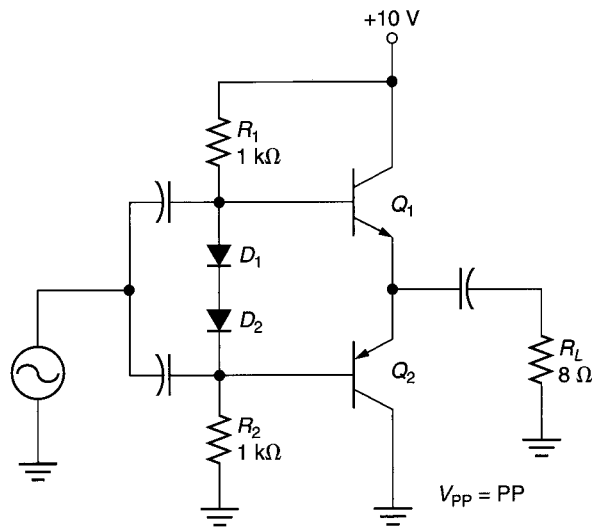

FIGURE 11.57
34. Determine the values of  $V_{CEQ}$ ,  $V_{B(Q1)}$ , and  $V_{B(Q2)}$  for the class AB amplifier in Figure 11.57.
36. Calculate the maximum efficiency of the class AB amplifier in Figure 11.57.